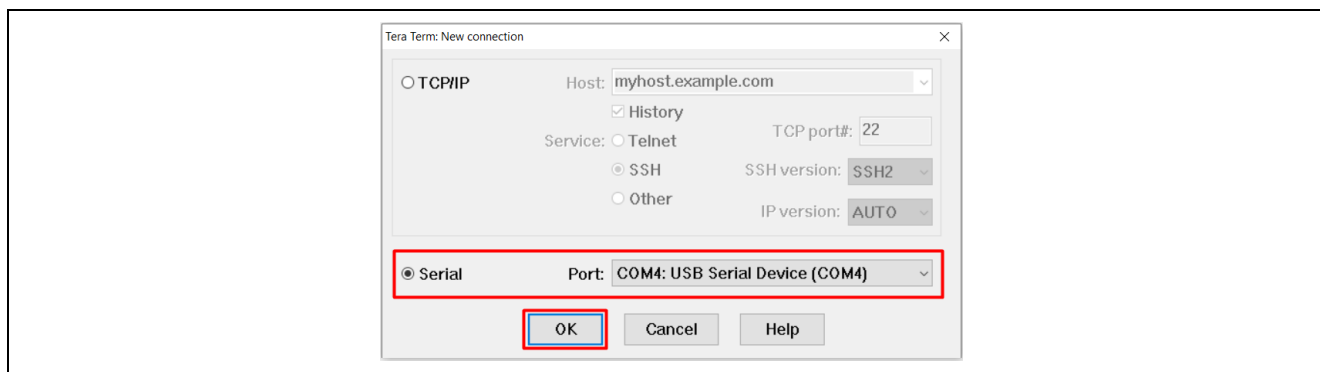

Figure 74. Open the USB COM Port
- If using the USB interface, choose the USB Serial Port (COM number may be different for your setup), as shown in Figure 74. Then click **OK**.